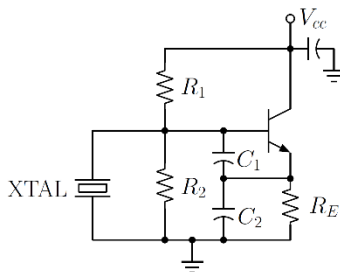

Figure 2.1: Common collector amplifier.
The gain for the oscillator will be provided by a common collector (CC) amplifier (also known as an emitter follower), as shown in Figure 2.1.